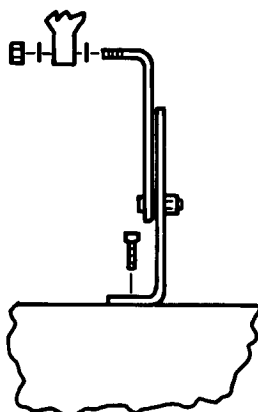

FIGURE 2
2. Bolt driver to horn, and attach adjustable bracket assembly to lower hole in horn throat. (see Figure 2)